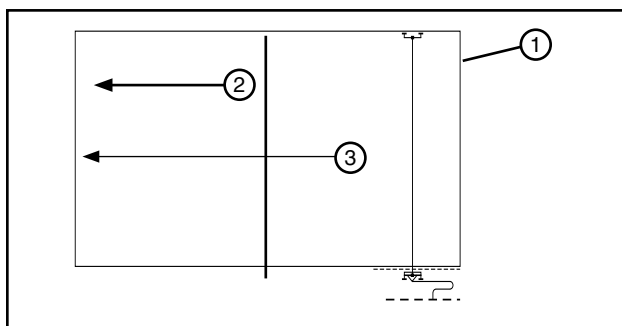

Figure 34-4 1. Field
2. Reverse the system direction, set the percentage timer, and run the system wet back to the original end of the field. See figure 34-4.